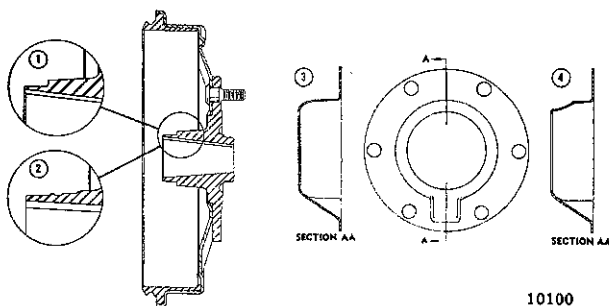

FIG. 312—GREASE PROTECTOR IDENTIFICATION
Only the later grease protector (Fig. 312, No. 3) can be used with the later hub and brake drum assembly (1). Either grease protector can be used with the earlier hub and brake drum assembly (2).